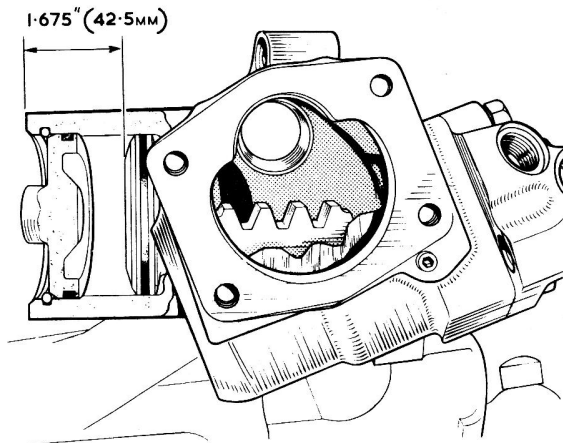

Fig.11.52. Assembly of the rack and piston
- 11 Screw a long 1/2" UNC bolt into the tapped hole in the centre of the piston and press the piston into its bore with the teeth in the rack facing the sector shaft centre line. Take off the end plate and enter the piston until its end is 1.675" (42.5 mm) from the mouth of the cylinder (Fig.11.52). Refit the end plate. Align the piston in the bore so that the back face of the rack is hard up against the gear casing adjacent to the rack adjuster plug bore.